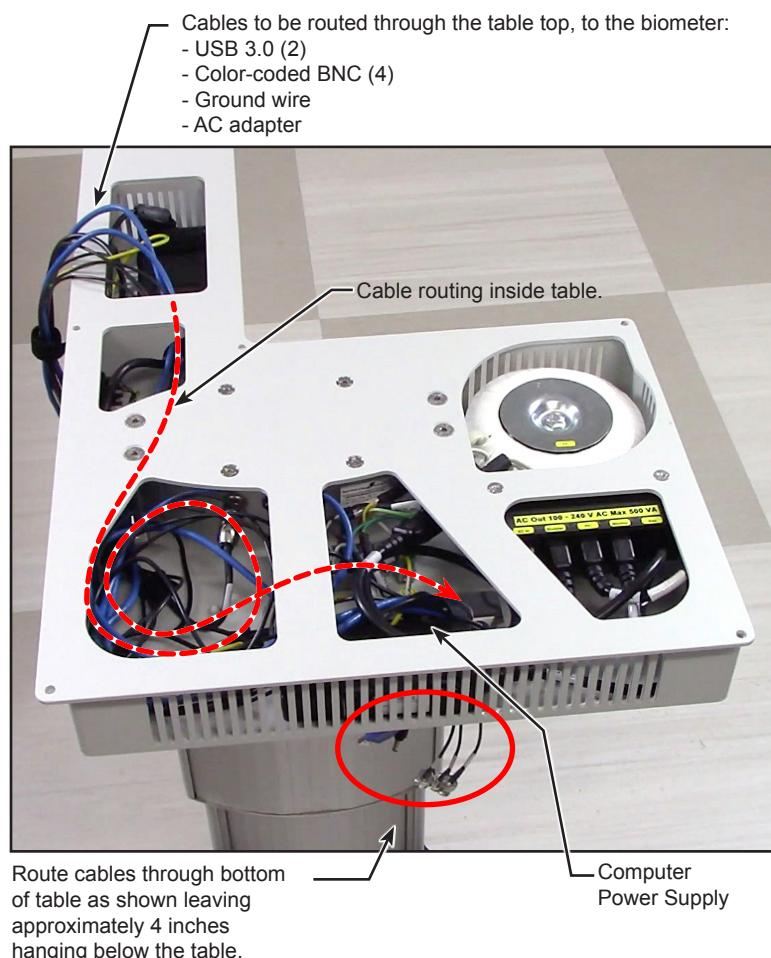

Figure 2-7 Cable Routing Inside Table
- 2.5 Connect the computer power supply to the pre-installed AC power cord, and then secure the power supply to the table with the Velcro** straps in the location shown in **Figure 2-7**.
- 2.7 Route the cables through the table as shown in **Figure 2-7**. The cables are long, so it is recommended to coil the cable with one loop to take up the extra length (as shown by the red dashed line). Leave approximately 4 inches hanging through the bottom of the table to connect to the computer.